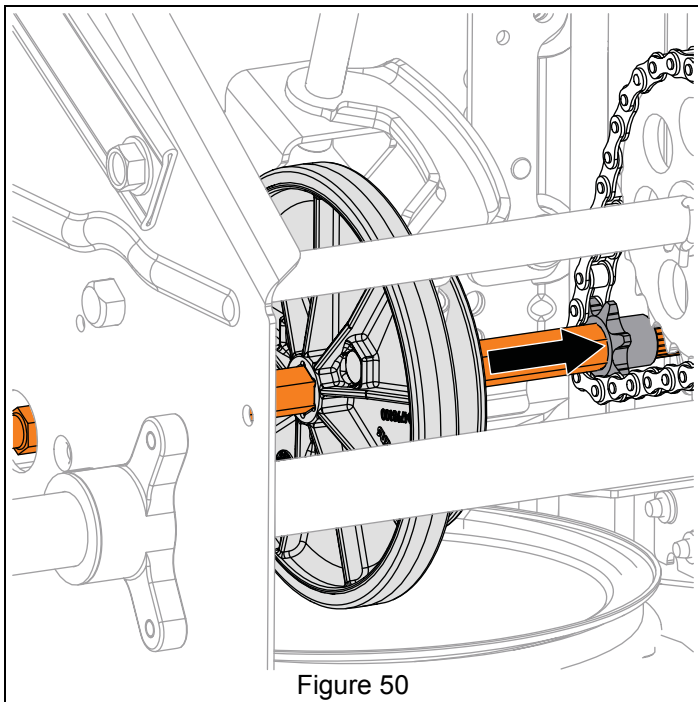

Figure 50
2. Insert hex shaft through friction disc, pinion sprocket and right side of frame. See Figure 50.